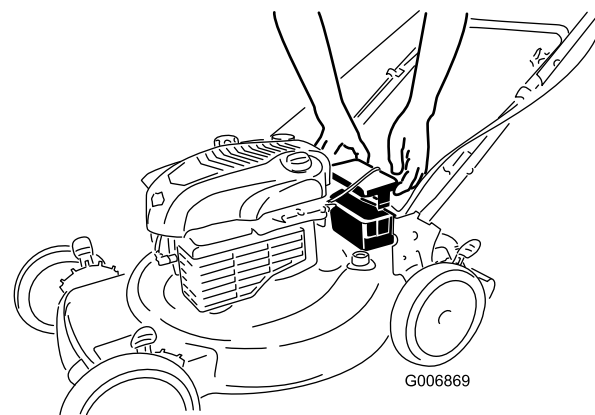

Figure 8
1. Unclip both ends of the battery cover and remove it (Figure 8).